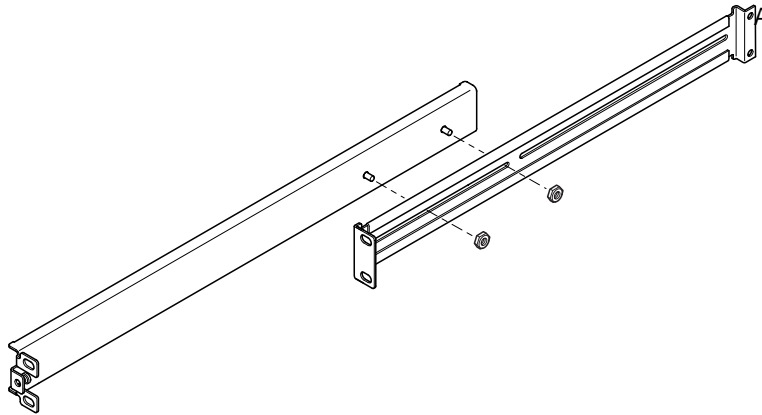

FIGURE 2-2 Positioning the Slide Mounts for a Sun StorEdge 72-Inch Tall Rack
1. **Position the two parts of the slide so that the double-angled ear (A) is in the correct position for the rack you are installing into.**
- For the Sun StorEdge 72-inch tall (19-inch wide) rack, the double-angled ear (A) must be to the rear (see FIGURE 2-2).